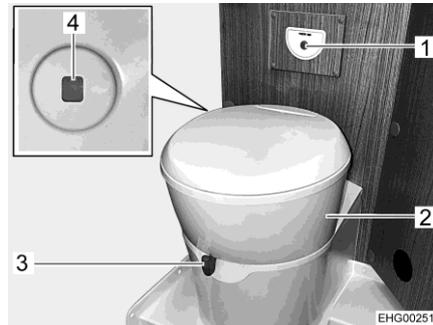

Fig. 104 Toilet
The toilet bowl can be rotated into the required position. In order to do this, grab the toilet's upper part (Fig. 104,2) with both hands and rotate it.
The operating unit with the flush button (Fig. 104,1) is installed near to the toilet bowl.
- Before flushing open the sliding trap of the toilet. To do this, push the slide lever (Fig. 104,3) in an anticlockwise direction.
- For flushing, press the blue flush button (Fig. 104,1).
The colour of the level indicator (Fig. 104,4) changes from green to red whenever the sewage tank has to be emptied.